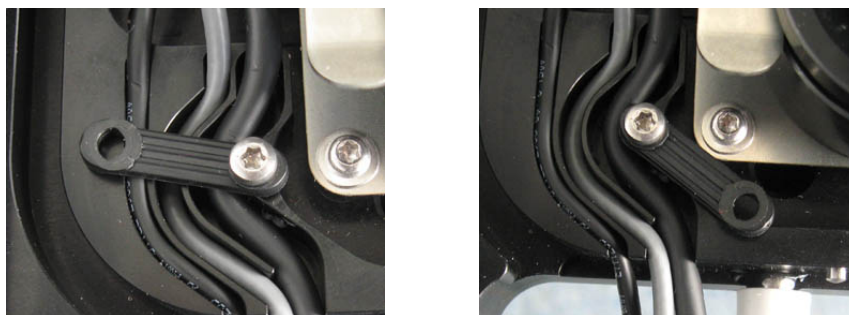

Fig. 11: Strain relief (left: closed, right: open)
6. Move the strain relief (→ Fig. 11) aside and route the electrode cable through the dedicated (middle) guide.